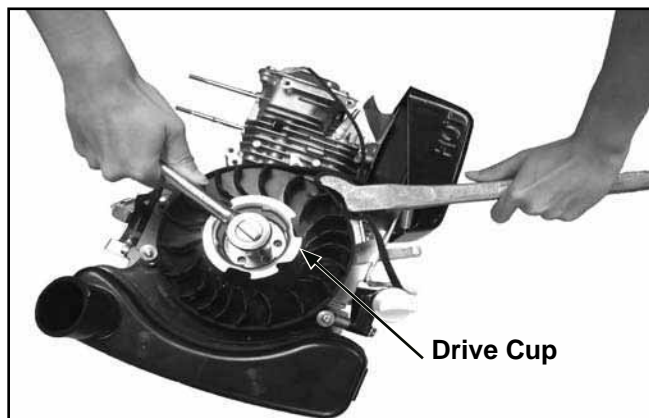

Figure 8-28. Removing Flywheel Nut (Top View).
1. Using a flywheel strap wrench to hold the flywheel in place, remove the hex nut inside the drive cup. See Figure 8-28.